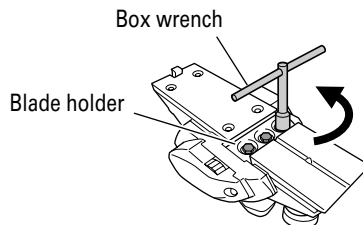

Fig. 7
- (1) As shown in Fig. 7 use the accessory box wrench to withdraw the three bolts used to retain the cutter blade, and remove the cutter blade holder.